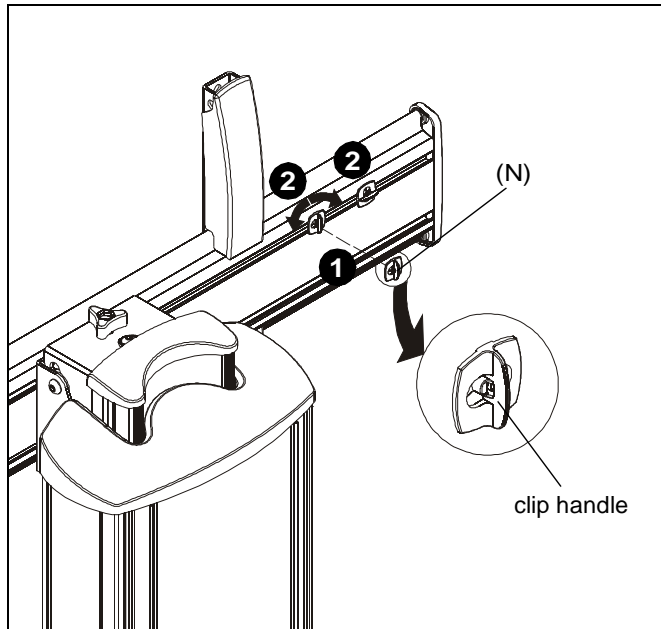

Figure 9
1. Place FCA clip (N) into groove on back of Fusion mount with clip handle in a vertical position. (See Figure 9)
2. Rotate FCA clip (N) 90° in either direction until clip handle is in a horizontal position. (See Figure 9)